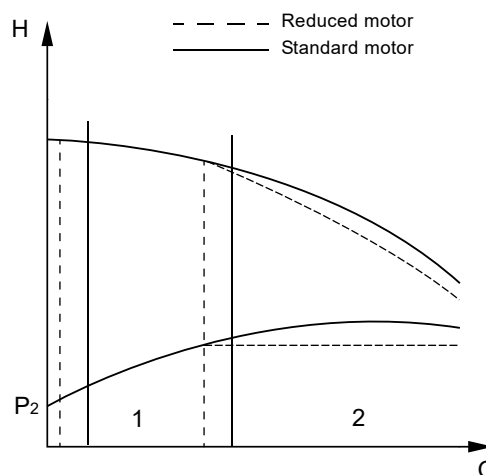

Fig. 114 Standard performance curve compared to a curve for a pump fitted with an undersize MGE motor
Figure 114 shows that a pump operating at low flow rates and relatively high pressures (1) can be fitted with an undersize motor with a rated power that matches this operating range. At higher flow rates and relatively lower pressures (2), the motor will reduce its speed when the power limit is exceeded and follow a steeper curve corresponding to the power available.